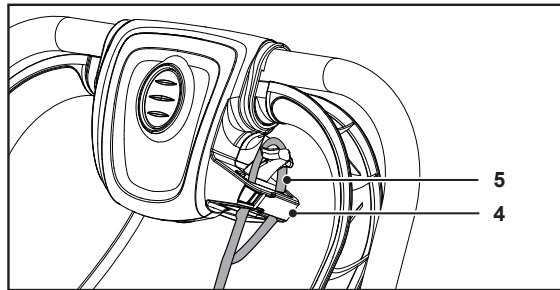

Fig. 4
The cord strain-relief hook (4) secures the power cord (5), preventing tangles, snags, or accidental disconnections while mowing. Loop the power cord (5) through this hook after plugging it in to enhance safety and cord management (Fig. 4).